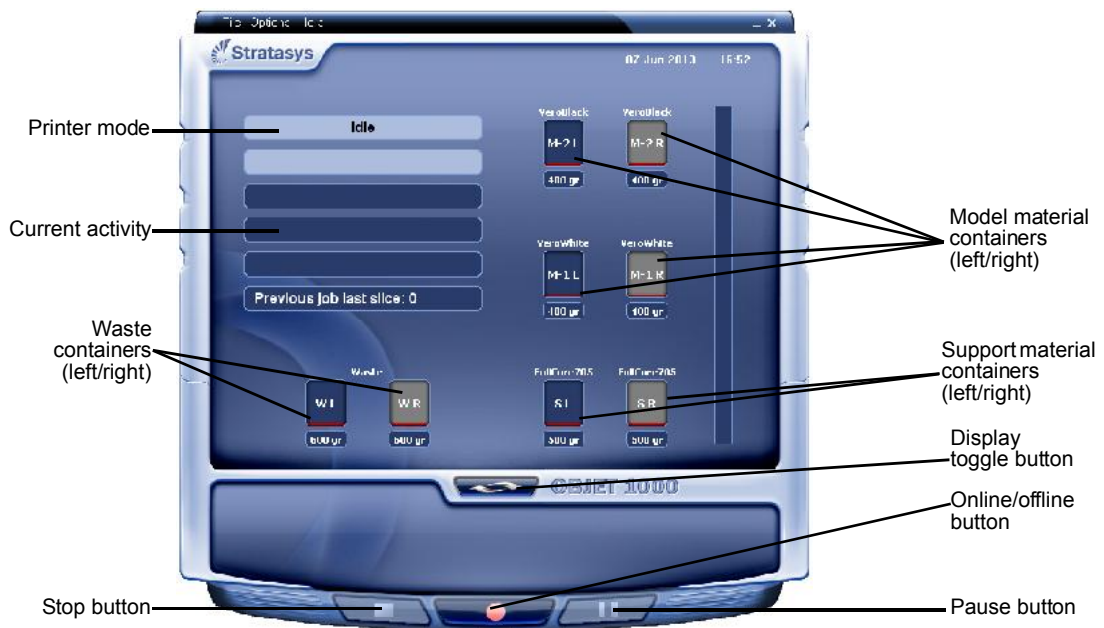

Figure 6-3: interface
Objet1000 - Connex 2 printers use four containers of Model material and two containers of Support material, each weighing 18 kilograms when full. A graphical representation of the cartridges loaded and their current weight appears in the printer interface (see figure 6-3).
4. Check the printer interface to make sure that the new cartridge is detected and that its weight is displayed (see figure 6-3).
2. Make sure that there is sufficient Model and Support material loaded, as indicated in the printer interface (see figure 6-3). You may want to replace the cartridges of Model and Support material currently loaded in the printer to avoid the need for replacing them during printing.
1. If the printer is in offline mode, switch it to online mode by clicking the red button at the bottom of the printer interface (see figure 6-3 on page 3).